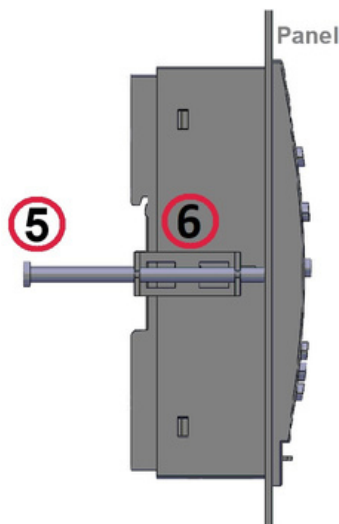

Figure 6: Device Profile
- The device is positioned vertically on the panel, as illustrated in Figure 6 below.
- The M4 metal YSB screws, 60 mm in length and shown as number ⑤ are inserted and tightened through the dual holes in the handles of the double-pronged metal brackets marked as number ⑥ in Figures 6 & 7, securing the device to the panel with the help of a screwdriver